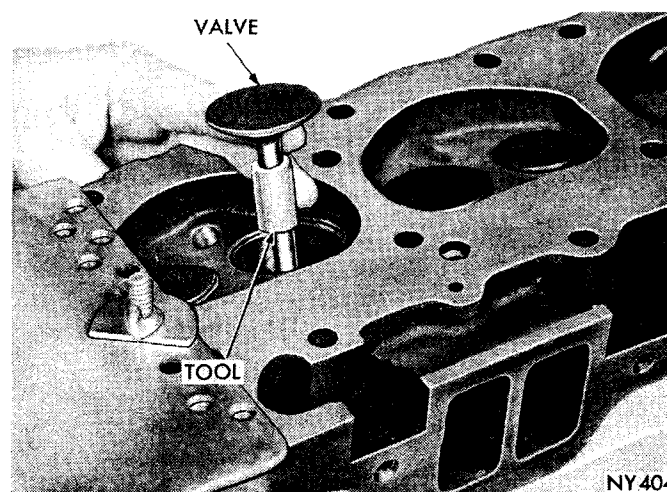

Fig. 6—Installing Valve and Tool
- (1) Clean valves thoroughly, and discard burned, warped and cracked valves.
- (2) Measure valve stems for wear. Intake valve stem diameter should measure .372 to .373 inch and exhaust valve stem diameter should measure .433 to .434 inch. If wear exceeds .002 inch, replace valve.
- (3) Remove carbon and varnish deposits from inside of valve guides, with a reliable guide cleaner.
- (4) Measure valve stem guide clearance as follows: Install sleeve Tool C-3973 on intake and Tool C-3726 on exhaust, over valve stem, (Fig. 6) and install valve. The special sleeve places valve at correct height for checking with a dial indicator.